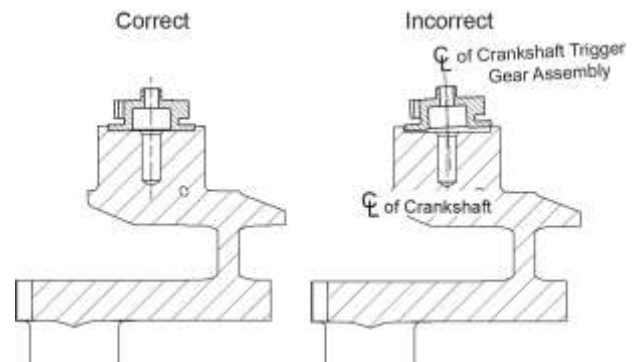

Figure 42
- (4) Make sure the crankshaft trigger gear assembly seats firmly and is perpendicular (not at a slanted angle) to the crankshaft as shown in Figure 42. If the crankshaft trigger gear assembly does not seat correctly, remove it, check for the cause, or replace the crankshaft trigger gear assembly if necessary.
- (5) Remove the crankshaft trigger gear assembly and put it in a safe place until it is installed, after the crankcase is assembled.